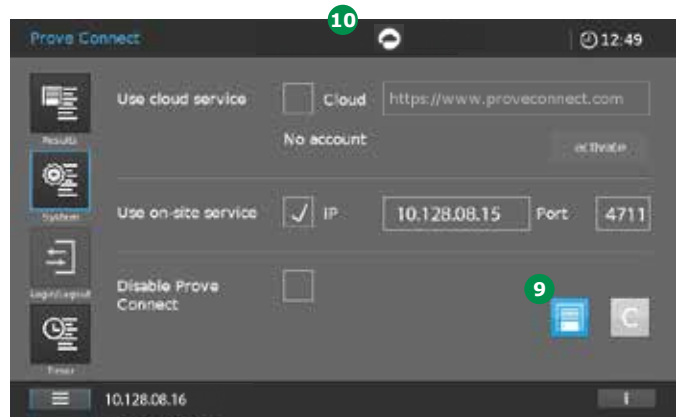

Figure 22 - Screen of Spectroquant® Prove / Prove plus with all network details
10. After setting all parameters (Checkmark, IP, and Port), press the save icon 9 (Figure 22).
The Spectroquant® Prove / Prove plus is now connected to your local network. When the connection is established the cloud icon 10 (Figure 22) appears in the instrument display.